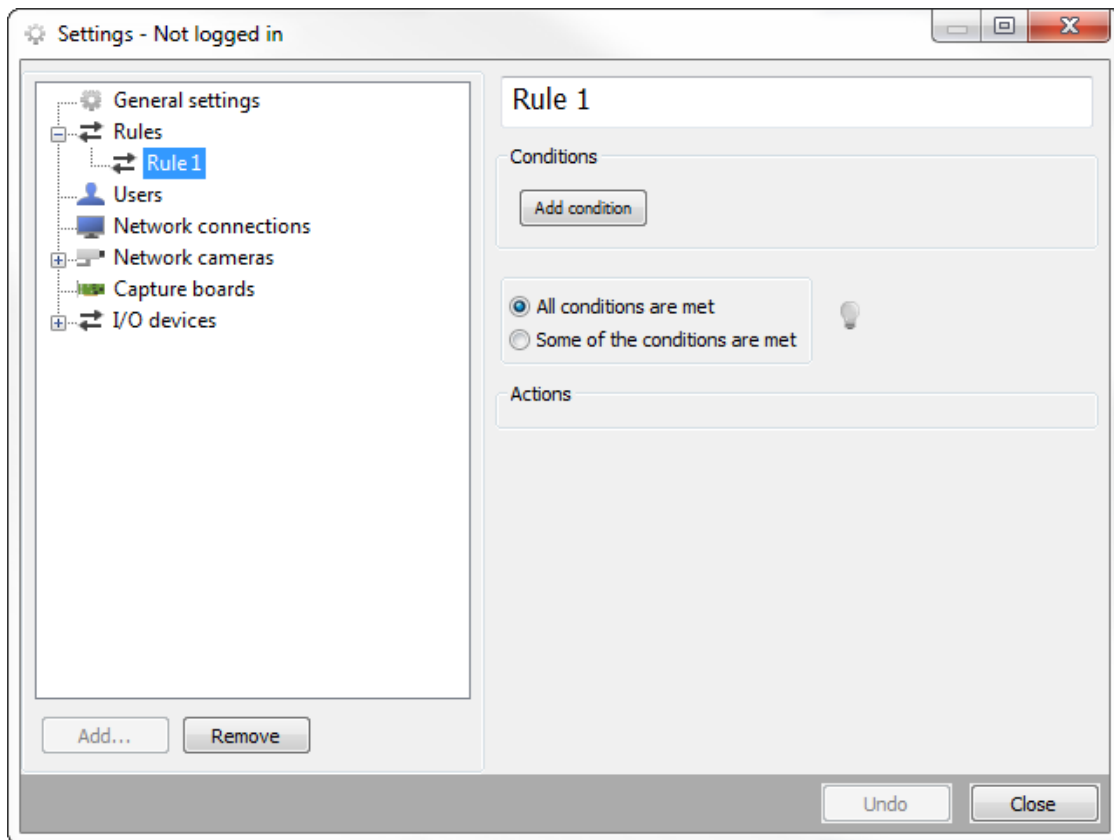

Figure 5.6: Edit rule.
- Modify the rule (Figure 5.6):